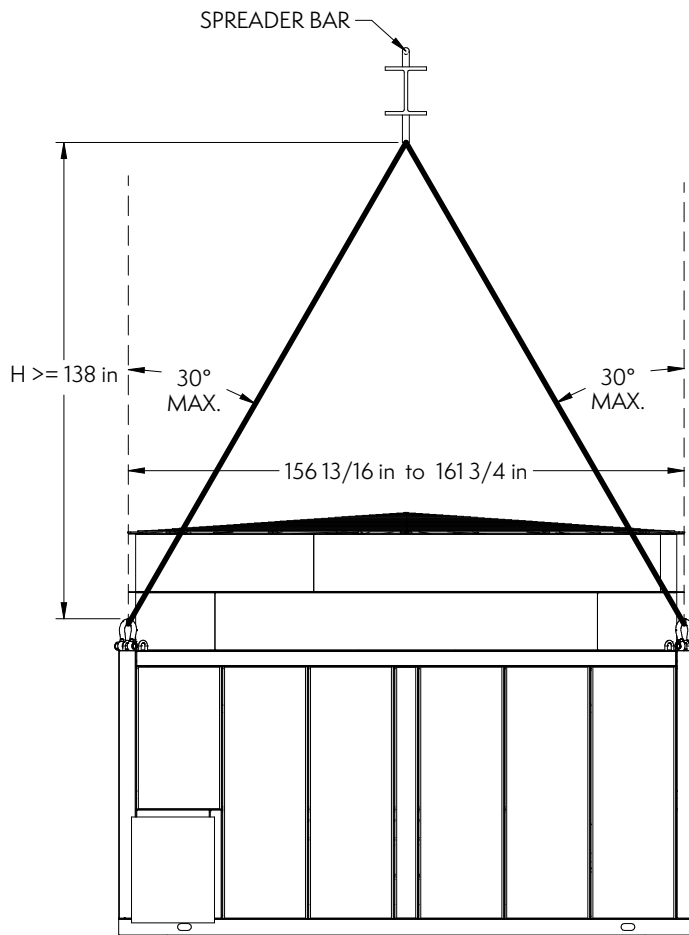
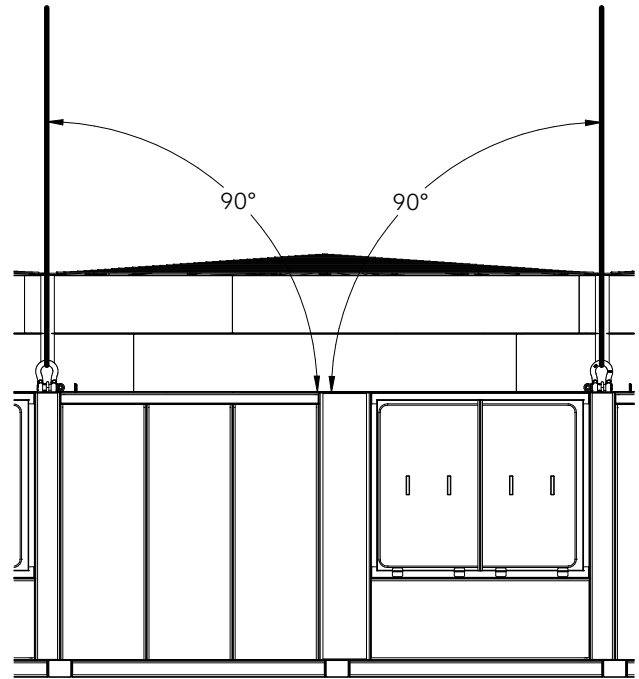

Figure 6.1 – Fan Section End Elevation View
Figure 6.2 – Fan Section Side Elevation View
2. Ensure that the 'H' dimension for the crane lift is greater than or equal to 11.5' (3.5 m) from the lifting ears as shown in Figure 6.1. When viewed from the side, the lifting angle must ALWAYS be 90 degrees (perpendicular) to the top of the unit, see Figure 6.2. The centerline distance between the fan section lifting ears on the end elevation view ranges from 13' 13/16" (3983 mm) to 13' 5-3/4" (4108 mm).